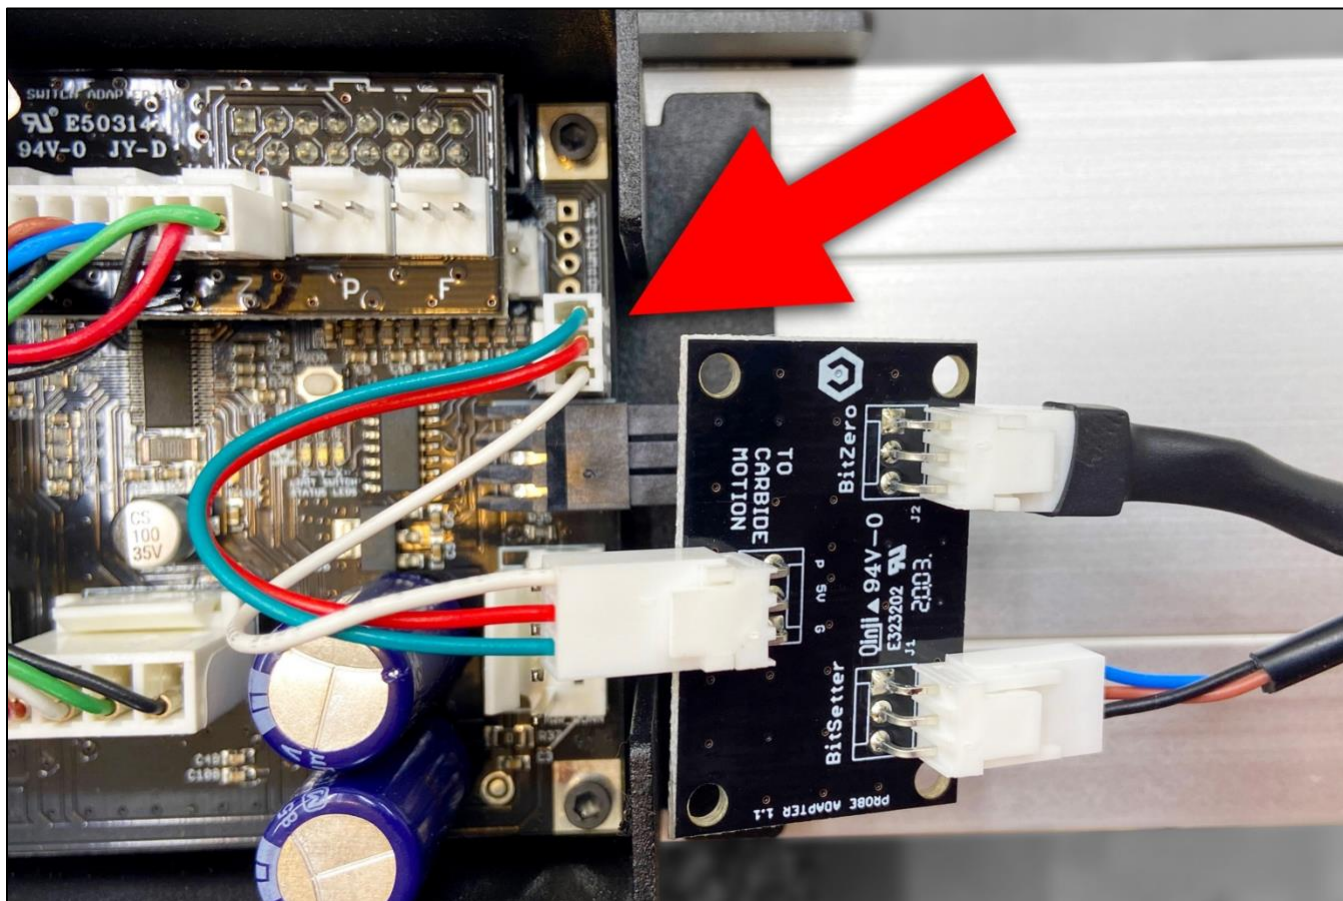

Figure 7
If you have both the BitZero V2 and BitSetter, you will need to use the probe adapter PCB and 3-pin adapter cable included in the BitSetter kit. See **Fig. 7**.
1. Connect the BitZero V2 to the port labeled *BitZero* on the probe adapter PCB. See **Fig. 7**. (On earlier versions of the adapter PCB, this port is labeled *Touch Probe*.)
2. Connect the BitSetter to the port labeled *BitSetter* on the probe adapter PCB. See **Fig. 7**. (On earlier versions of the adapter PCB, this port is labeled *Tool Probe*.)